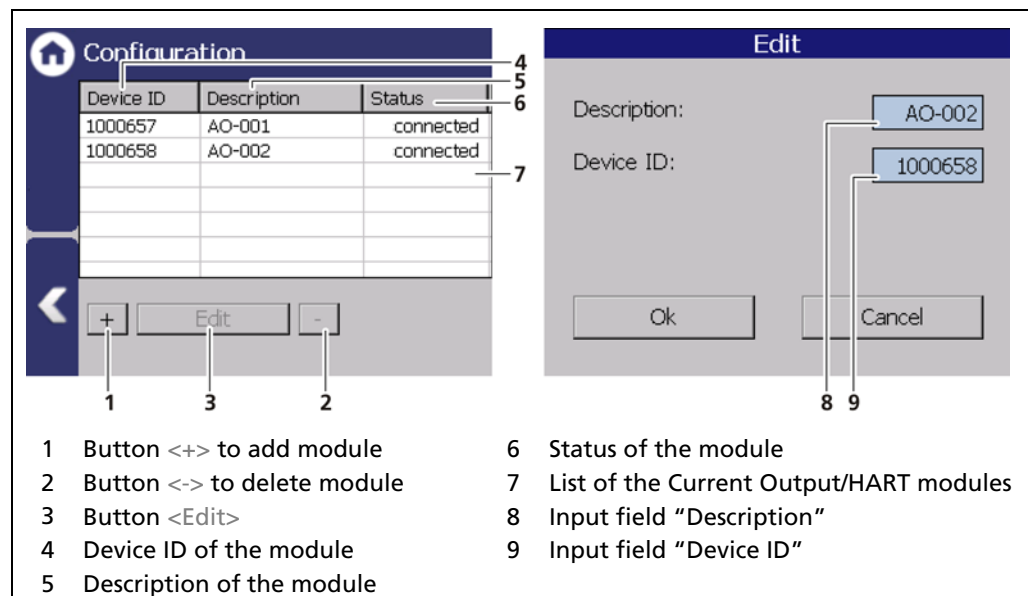

Fig. 103 Configuration Additional Outputs
Clicking the button <Edit> (Fig. 103, item 3) opens the setting of the selected module. Current Output/HART modules can be added manually with the button <+> (Fig. 103, item 1) with their device ID (see type plate on the housing of the Current Output/HART module). Current Output/HART modules can be removed with the button <-> (Fig. 44, item 2).